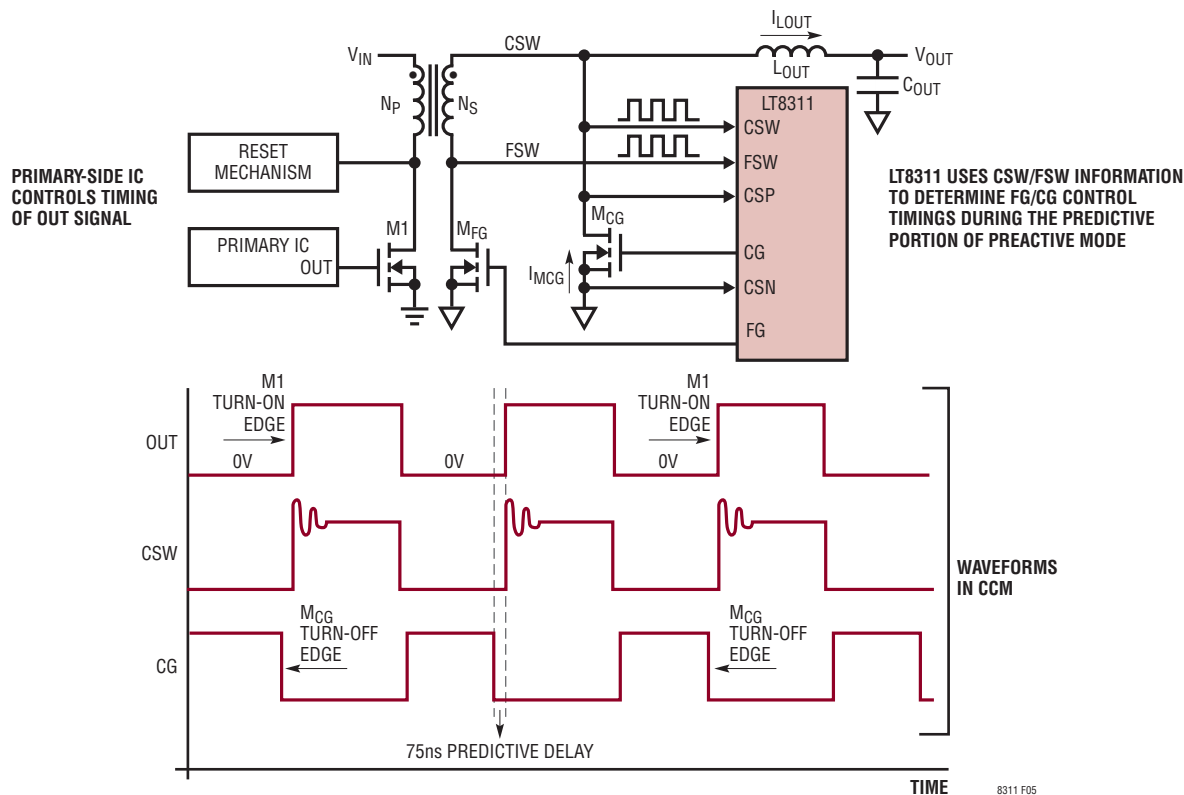

Figure 5. During the Predictive Portion of Preactive Mode, the LT8311 Phase Locks into the CSW Rising Edge and Turns Off M_{CG} 75ns Prior to This Edge
"Preactive" is short for "predictive" + "reactive". In preactive mode, the LT8311 controls the secondary synchronous MOSFETs without any communication from the primary-side IC. In preactive mode, the catch MOSFET, M_{CG} , is turned on (CG rising edge in Figure 5) when the voltage on its drain, CSW, is detected to be below -150mV , and the forward MOSFET, M_{FG} , is detected to be off. M_{CG} is turned off when the first of two events after M_{CG} 's turn-on occurs:
- **Predictive M_{CG} Turn-Off** (Figure 5): In predictive turn-off, the LT8311 predicts when M1 will turn on in the next cycle, and turns off M_{CG} 100ns prior to this event. Predictive turn-off of M_{CG} prevents cross conduction between M_{CG} and M1. M1's turn-on timings are predicted by phase locking to the rising edge of present and past CSW cycles. Predictive turn-off relies on the periodicity of M1's turn-on edge, an inherent aspect of fixed-frequency operation. Furthermore, the predictive turn-off is designed to be independent of the duty cycle of the system, which allows M_{CG} to be correctly turned off, even during load/line transients. Predictive turn-off will typically be the dominant turn-off mechanism for M_{CG} in CCM.